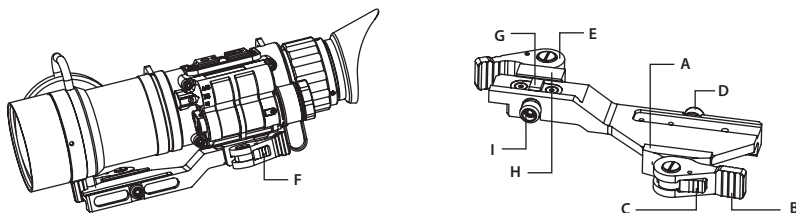

FIGURE 3-2. MOUNTING THE AVENGER TO A WEAPON WITH A QUICK-RELEASE PICATINNY MOUNT ADAPTER
1. While pushing down on the lever holder (C), turn the lever (B) backwards to loosen the QRM clamping device (A).
2. Install the QRM on the weapon rail by inserting the stop (not shown in Figure 3-2) into one of transverse slots of the weapon rail.
3. To secure the QRM onto the weapon rail, turn the lever (B) forward. Secure the clamping device (A) tightly to the weapon rail. To adjust the force of the lever clamp, loosen or tighten the nut (D) as necessary:
- When the clamping device (A) unlocked, push the lever holder (C) so that the nut (D) gets out of its hollow.
- To tighten/loosen clamping device, turn the nut (D) CW/CCW, respectively, by one-two increments (the eight-sided nuts of the AIM clamping devices fit their hollows only if turned in one of the discrete positions), when the holder (C) pushed. Just as the holder (C) released, backmoving springs makes the nut (D) get back into its hollow.